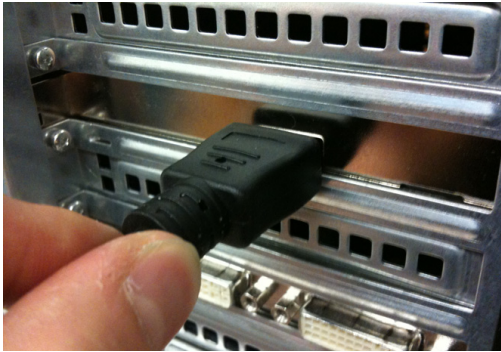

Figure 4-3: Connecting the HD Express to the computer.
- 1 Plug one end of the supplied HDMI cable into the HDMI socket on the PCIe card or ExpressCard adapter as shown below in Figure 4-3.
☛ When making the connection from the computer (Figure 4-3) to the interface (Figure 4-4), be sure to plug the HDMI cable into the jack labeled *PCIe CARD*, as shown in Figure 4-4. DO NOT plug it into the *HDMI OUT* jack. The computer must be connected to the *PCIe CARD* jack for proper operation.